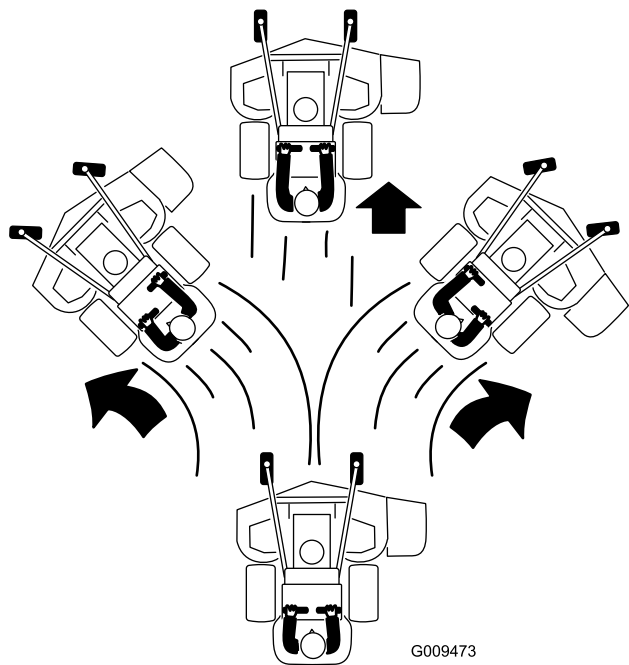

Figure 20
4. Slowly push the motion-control levers forward (Figure 20).